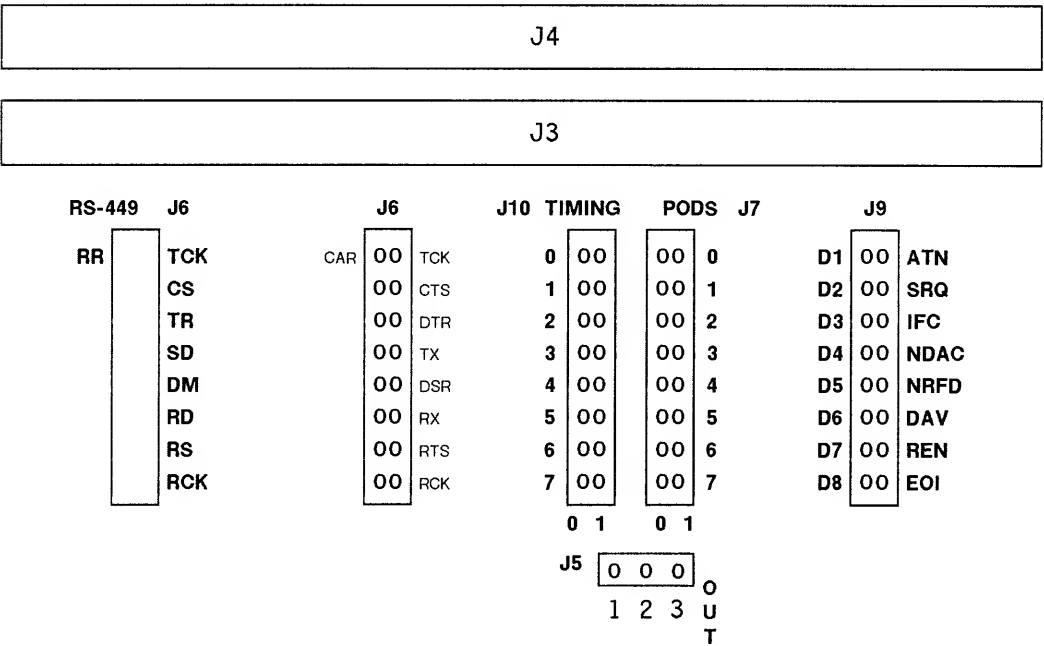

Figure 6-1. Timing Connector Locations.
**CONNECT TIMING JUMPER** On the HP 10342B, connect the ribbon jumper cable to the appropriate pins. All 16 possible timing channels are connected when the jumper cable is connected from J6 to J10. Only nine channels are used with RS-449 processing. See figure 6-1.
**CONNECT FRONT PANEL OUTPUTS** If you want any data or control lines connected to the front panel outputs, use the single jumper wires to connect pins of J7 to pins of J5. See figure 6-1. When using the mass-connect jumper cable the signals at J7 correspond to the mnemonics at J6.